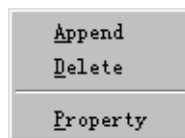
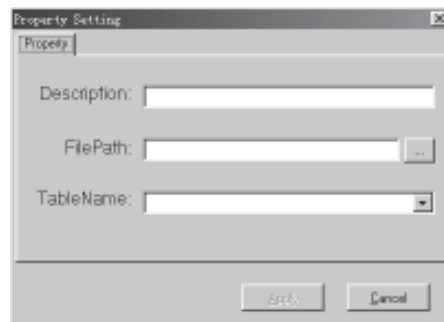
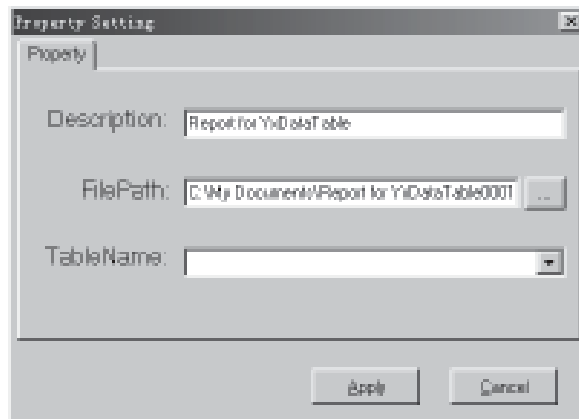

Fig. 8-22 Click the Right Key of the Mouse
Fig. 8-23 Select the ;°Append;±Function Option
Fig. 8-26 Properties Modifying Dialogue Block
2.1 Add the Designed Report to the Table List. Click the right key of the mouse in the listing table, and the dialogue block as in Fig. 8-22 will be shown. Select the function option ;°Append;±and the dialogue block as in Fig. 8-23 will be shown.
2.2 Delete the listing option from the listing table. First select the listing option to be deleted and then click the right key of the mouse. Then the dialogue block as in Fig. 8-22 will be shown. Select the `°Delete;` function option.
2.3 Modify the properties of the listing option. First select the listing option to be modified and then click the right key of the mouse. Then the dialogue block as in Fig. 8-23 will be shown. Select the `°Property;` function option, then the dialogue block as in Fig. 8-26 will be shown. In the dialogue block, modifying the `°Description;` and `°FilePath;`, and then click the button `°Apply;`. Thus the modification is completed.